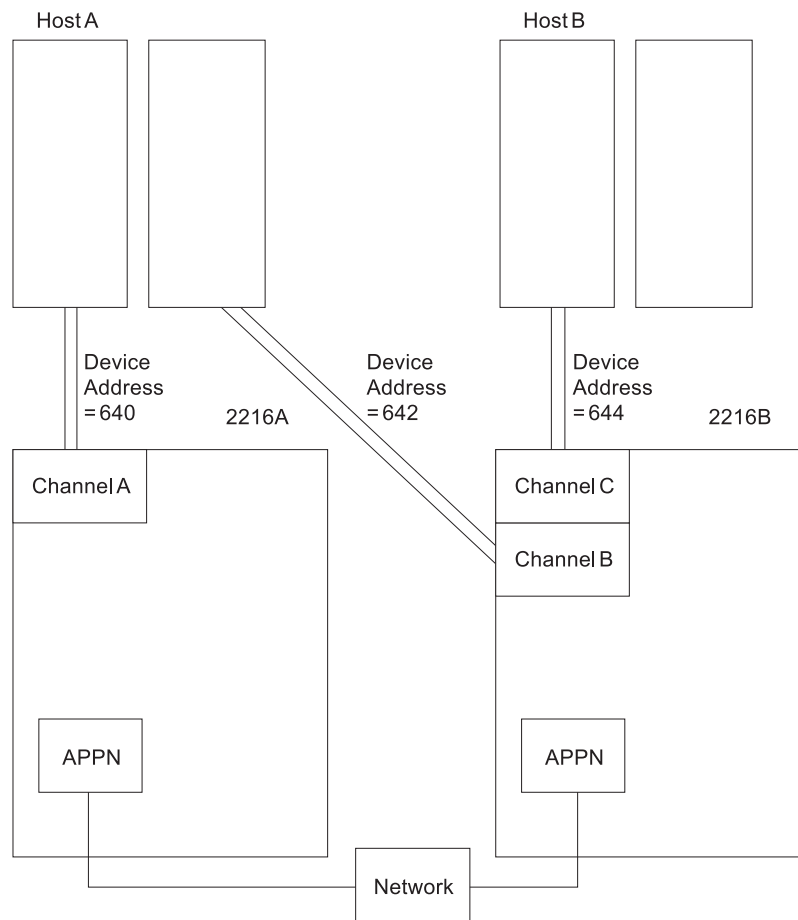

Figure 5-11. 2216 Model 400 or Network Utility and Host Backup - APPN over Multi-Path Channel+
**Examples of APPN over MPC+:** Figure 5-11 shows an example of backup for APPN over MPC+.